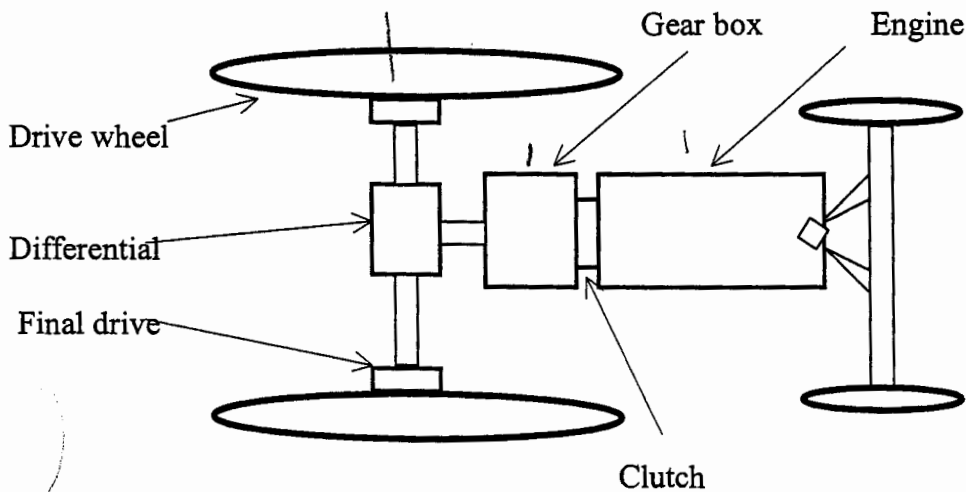

Figure 1 The drive train of a tractor power transmission.
- b) Figure 1 shows the components of a drive train of a tractor power transmission system. Table 1 shows the transmission data from the technical specifications of the operator’s manual for the components in Figure 1.